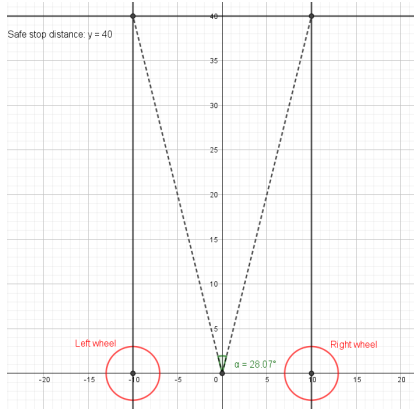

Fig. 4. Blind angles
3) *Checking the blind angles:* In addition to the three directions we had already implemented, we decided to focus on two more directions; the so-called blind angles. These were meant to make the robot able to avoid an obstacle if it was only slightly in front of it, but not so much that the average would get low enough. We calculated these by measuring the minimal distance between two obstacles that robot could drive through - that is, the width of the robot, which we measured to be 20cm. We wanted the robot to begin avoiding the obstacles at the blind angles from a distance of 40cm. We got the result as depicted in figure 4. We also wanted these angles to be very narrow such that the robot would be able to detect even a small corner of some obstacle. For this reason we only looked at a span of 8 degrees.